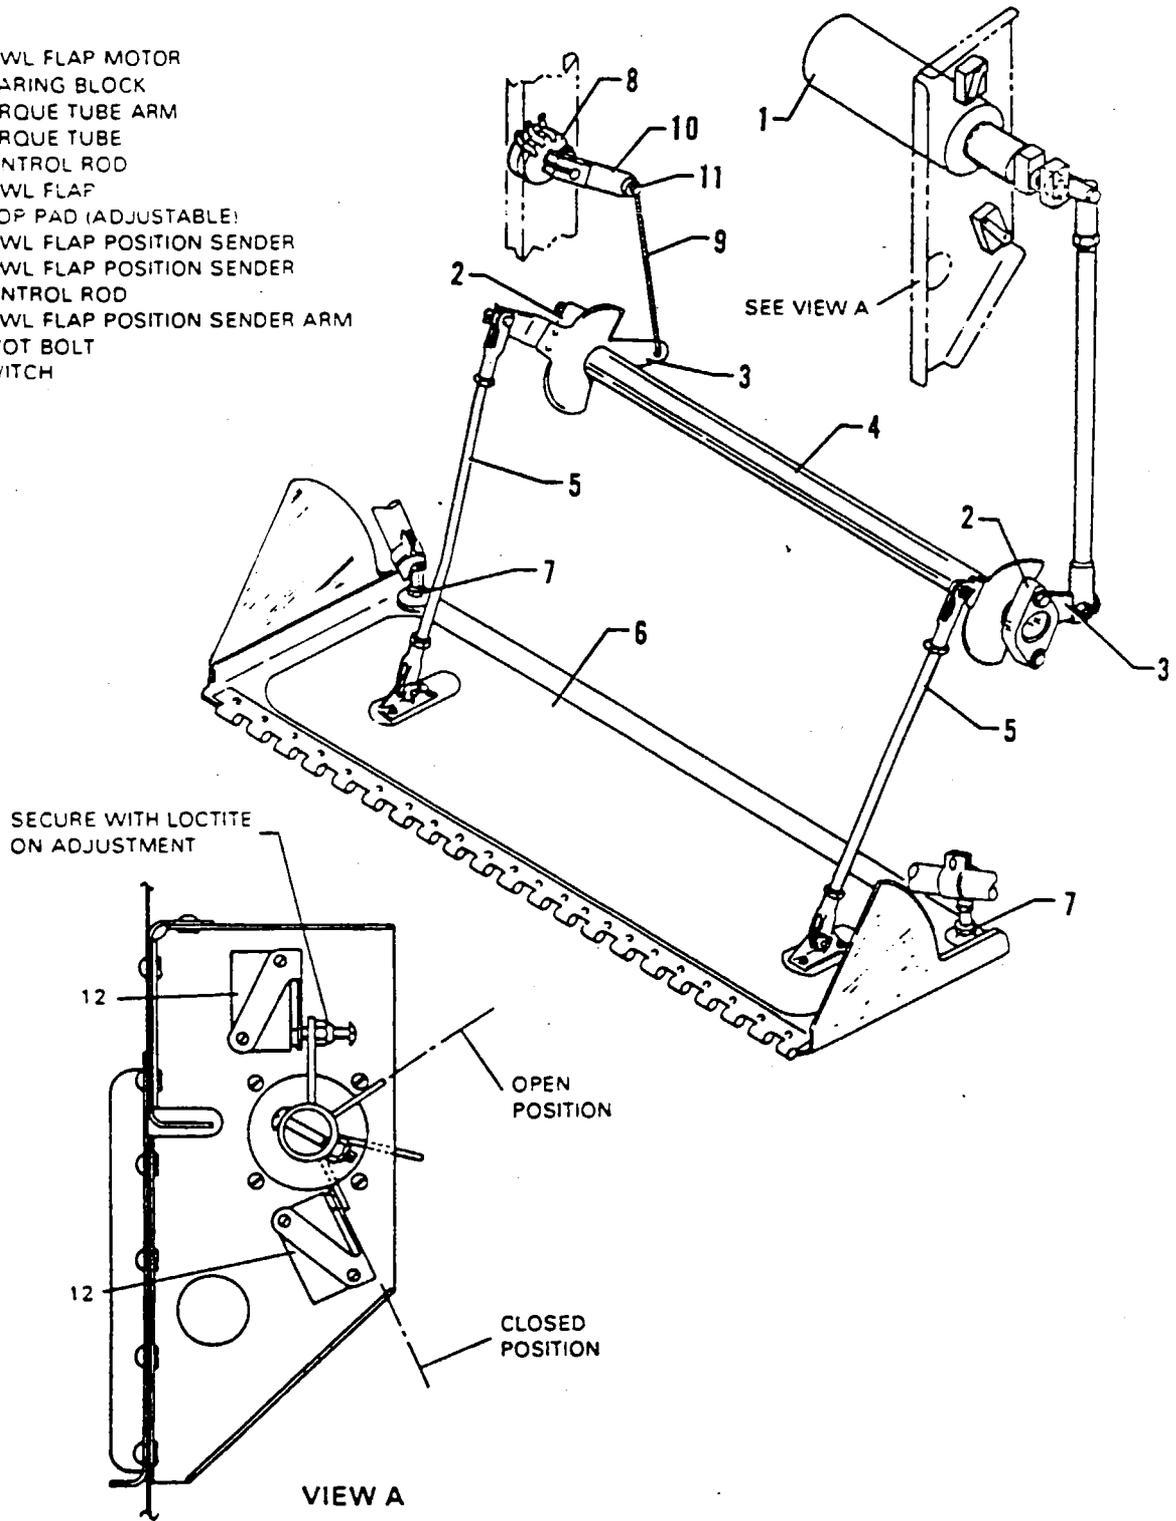

Figure 71-3. Cowl Flap Installation
**RIGGING AND ADJUSTMENT OF COWL FLAP. (Refer to Figure 71-3.)**
**REMOVAL OF COWL FLAP POSITION SENDER. (Refer to Figure 71-3)**
**INSTALLATION OF COWL FLAP POSITION SENDER. (Refer to Figure 71-3)**
**RIGGING AND ADJUSTMENT OF COWL FLAP POSITION SENDER. (Refer to Figure 71-3)**